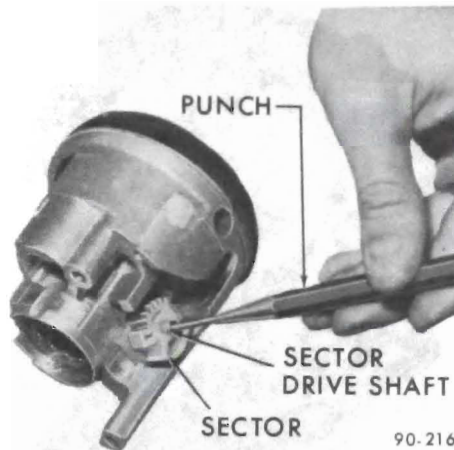

Figure 90-145 - Removing Sector Drive Shaft.
3. Remove snap ring from sector drive shaft. With small punch, lightly tap drive shaft from sector. Remove drive shaft, washer, sector and bolt. Remove rack and rack spring. See Figure 90-145.